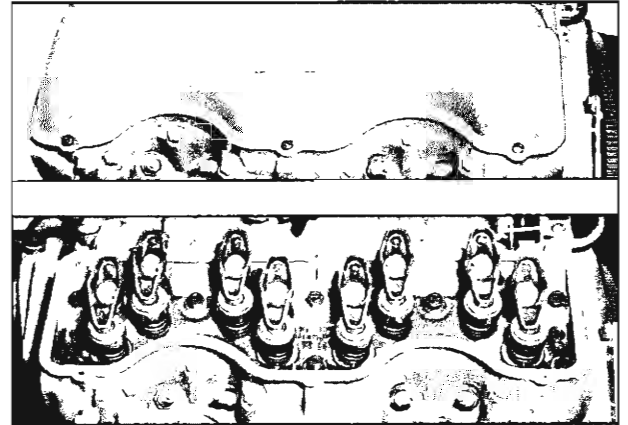

Fig. 137—Rocker Arm Covers and Gaskets
24. Install new rocker arm cover gaskets and rocker arm covers as shown in Figure 137.